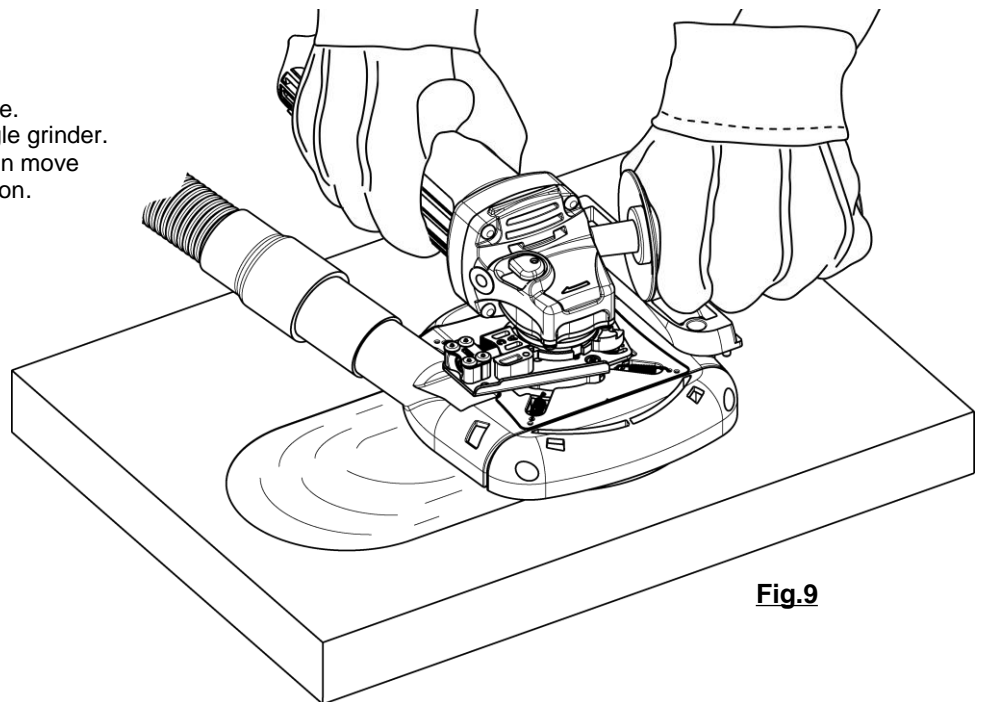

Fig.9
3. Place [a] Main Unit on material slowly, then move the Angle Grinder toward the grinding direction. (Fig.9)